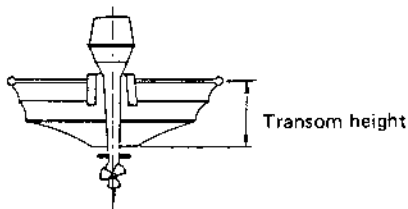

Fig. 1
- Position the outboard motor at the center of the stern using cushion or pad plate. (Fig. 1)